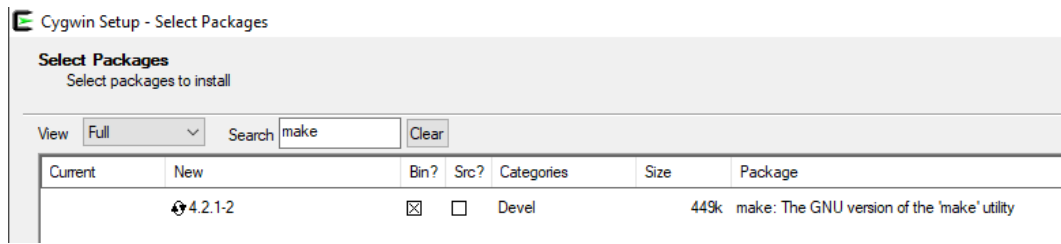

Fig. 6: When installing Cygwin for Windows you need to add the add the gnu 'make' package to be able to use makefiles.
- f) (OPTIONAL) Run the full synthesization and timing via the Makefile as given below. You may need a Linux system with a Makefile package or you could install Cygwin on Windows (see <https://www.cygwin.com>) and use its makefile cababilities—remember to install `make` for Cygwin, as seen in figure 6.